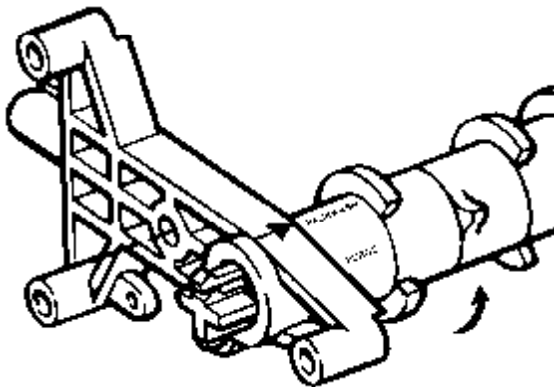

Figure 4
3. Push in on RED KNOB on timer, turn counterclockwise until arrow on the camshaft/timer support points to the BACK-WASH position indicated on #1 cam (see Figure 4).